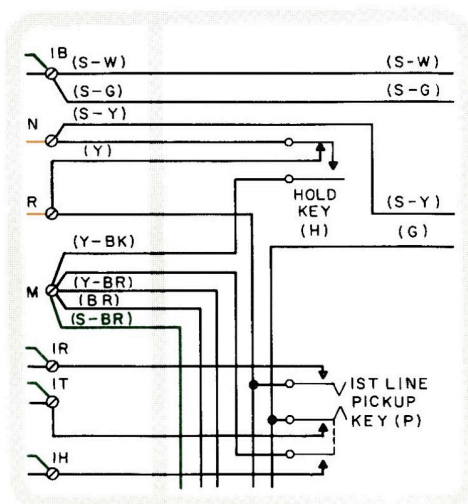

Fig. 1 - Wired for 1A Key System
**2.01** The 565HDR set is furnished wired for 1A1 key systems. These sets have the red and black ringer leads wired respectively to terminals RR and RT. Telephone sets wired with the black and red ringer leads on the RR and RT terminals will have a plus (+) sign after the code number on base of set. Conversion tables used in conjunction with Fig. 1 and 2 are for various re-arrangements.